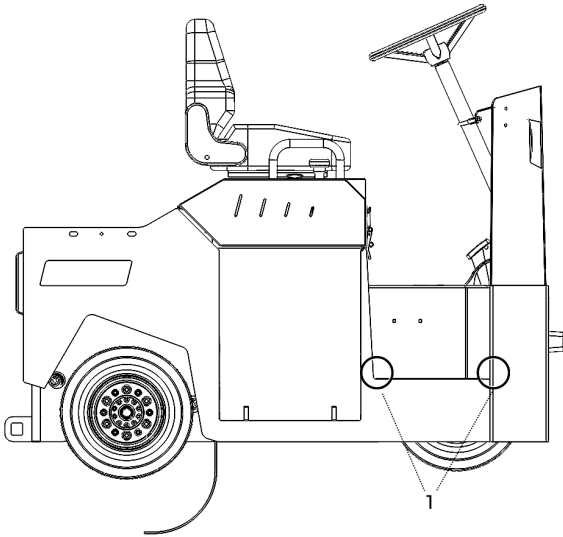

Figure 28. Side Panels.
- Side panels corners (1) (both sides). There is a possibility of cracks occurring in these corners as they undergo significant stress (see Figure 28).